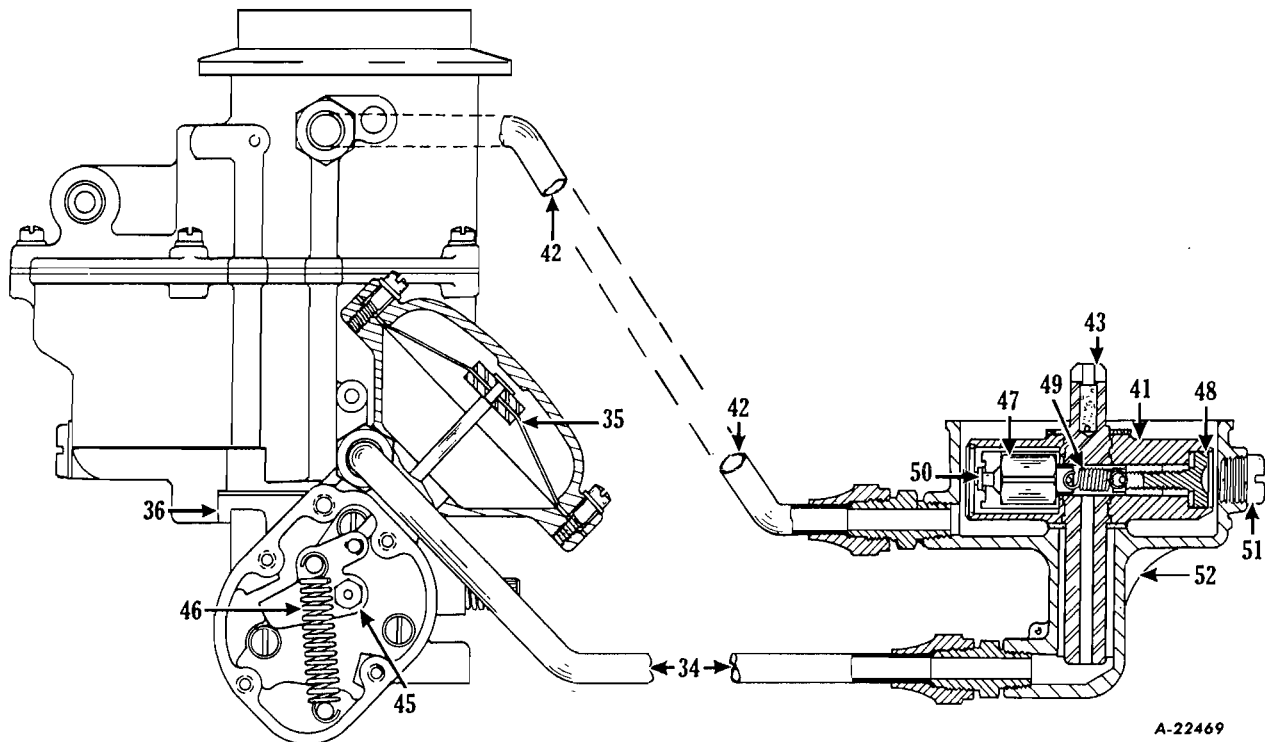
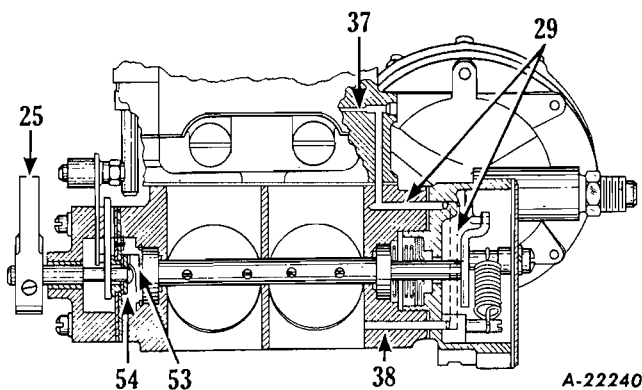
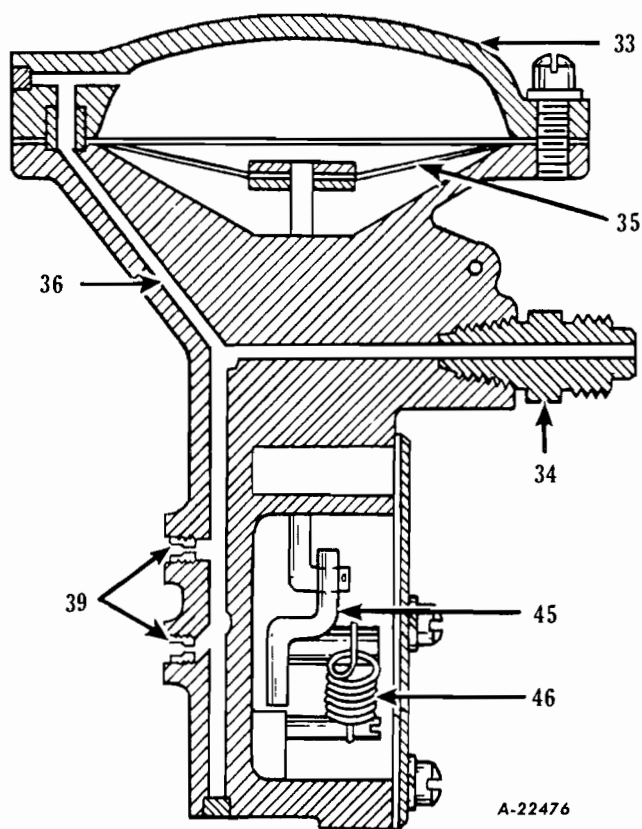

Fig. 7 - Details of governor. Spinner or rotor housing is located at distributor.
Fig. 8
Fig. 9
The governor is made up of two units (see Fig. 7). The control at the engine end of the governor consists of a governor valve (47), an adjusting screw (48) and a spring (49) assembled in a rotor (41) which revolves at one half the engine speed, in a housing (52), attached to an engine driven shaft (43). The controls at the carburetor end of the governor unit consist of a diaphragm (35) which is connected to the governor lever (45) by a short rod and a tension spring (46) which is also attached to the governor lever (45) and tends to hold the throttle open.
The diaphragm chamber (33) in Fig. 9 is connected to the governor valve air bleed orifice (50) in Fig. 7 by means of a conventional pipe line (34). The air bleed supply enters the rotor housing (52), Fig. 7, from a pipe line (42) attached to the engine air cleaner or carburetor as shown in Fig. 7.
Vacuum to the diaphragm (33), Fig. 7, is supplied by means of the two channels (37) and (38) as shown in Fig. 8. Channel (37) opens into the carburetor above the throttle plate and channel (38) below the throttle plate. These two openings are connected by channel (29), Fig. 8, which in turn is directly connected to channel (36) as shown in Fig. 9. The vacuum is controlled by the governor by-pass channel jets (39) instead of the variable restriction formerly used.
When the engine is running at idling speed, the throttle is controlled by the external lever (2), Fig. 8, and the pin (54) which is held against the internal lever (53) on the throttle shaft by the accelerator spring, as shown in Fig. 8. At idling speed, the governor valve (50) in Fig. 7 is held away from the air bleed orifice (50) by the spring (49) which is fastened to the governor adjusting screw (48). As the accelerator is
moved to and held in the full open position to increase the engine speed, the governor spring (46) in Fig. 7, pulls the throttles to the wide open position to remain there until the engine r.p.m. has reached the predetermined governor cut-off speed. At this point, the governor mechanism which has kept pace with the engine speed is ready to go into action and take over control of the throttle, causing the accelerator system to become ineffective for further engine speed increase. The action of the mechanism is, that when the engine speed increases, the governor valve (50) in Fig. 7, stretches the spring (49) and moves toward the air bleed orifice (50) thus restricting the bleed to the diaphragm (35). As the air bleed to the diaphragm is reduced it permits the suction supplied by the orifices (37) and (38) in Fig. 8, to operate the diaphragm. As this suction increases, the diaphragm power overcomes the tension of the governor spring (46) in Fig. 7, and takes over full control of the throttles. The engine governed is then held constant by the valve (47) being balanced between the pull of centrifugal force actuated by the rotation of the shaft (43) and the tension of the spring (49) in Fig. 7.
1. Remove the seal from the screw (51) that will be found on the side of the governor housing (52) in Fig. 7.
3. Rotate the engine until the end of the governor rotor (41) in Fig. 7, which carries the adjusting screw (48) is in line with the hole from which the screw (51) was removed.